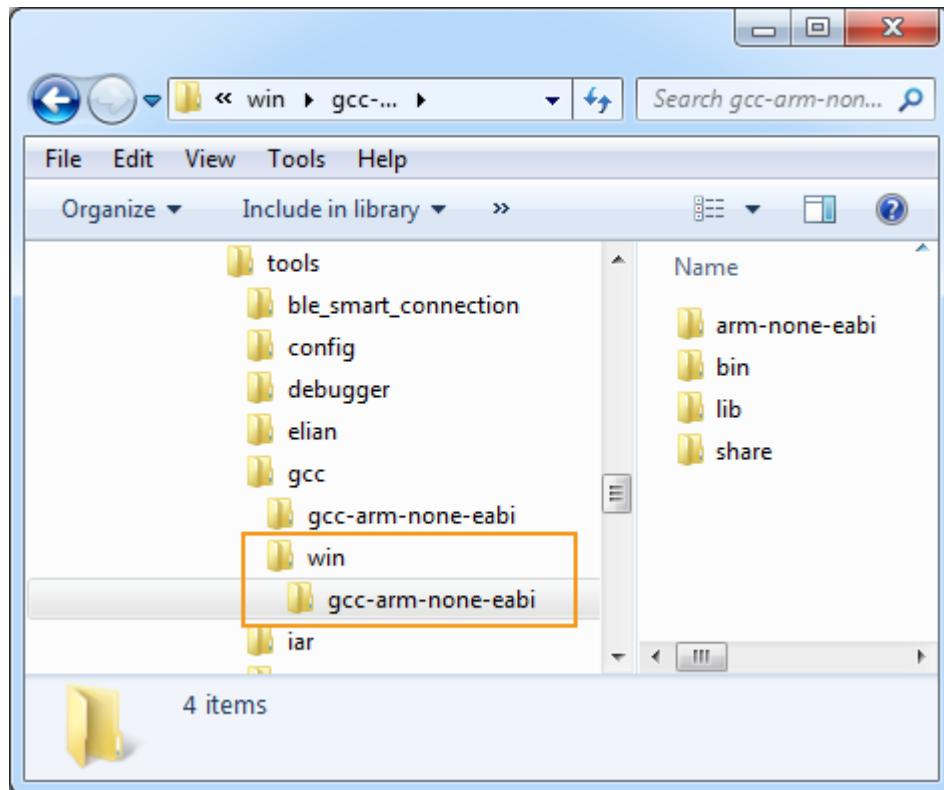

Figure 42. tools\gcc folder structure
- c) Rename the unzipped gcc-arm-none-eabi-4_8-2014q3-20140805-win32 folder to gcc-arm-none-eabi, as shown in Figure 42.